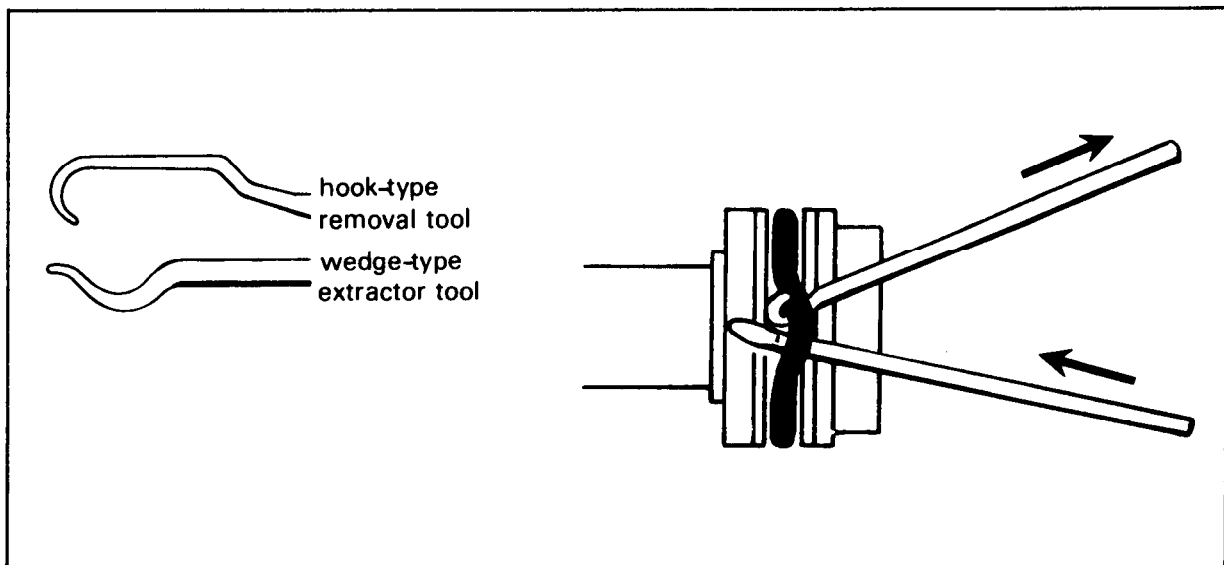

Figure 3-13. Pull method (external O-rings).
2. Insert a wedge-type extractor tool under an O-ring, and use the hook-type removal tool to hook the O-ring. Pull slightly on the hook to remove the O-ring from its cavity. (See Figure 3-13.)